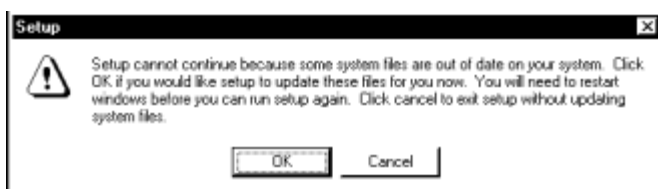

Figure 2.1.2 Message Displayed during Setup
- (4) The message box shown in Figure 2.1.2 may appear during installation.